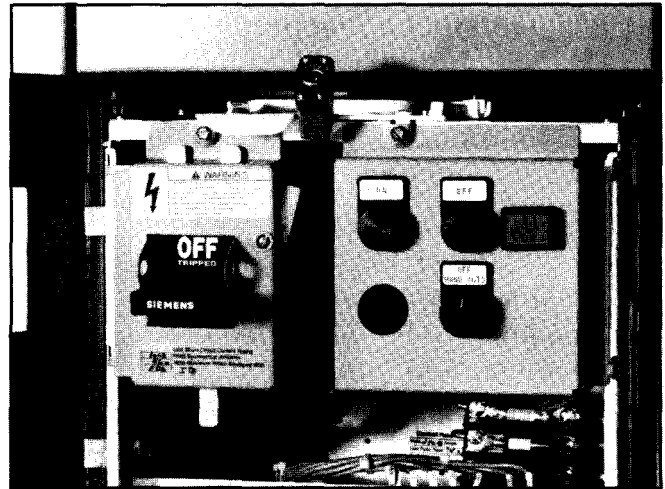

Figure 21A. Operating Handle in the "Off" Position
2. Push the disconnect operating handle down (Figure 21A) to the OFF position.
5. Grasp the racking cam handle and pull the unit out approximately 1-1/4 more inches. Now push the handle back toward the unit until it stops. The unit may be locked out in this position by inserting a padlock in the handle as shown (Figure 21A).